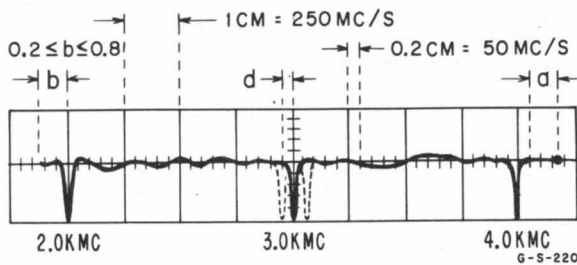

Figure 4-10. Calibration Pips on CRO Sweep
- 6) With R244 (figure 4-15), adjust sweep linearity in a direction which centers the 3 kmc (gc) pip between the 2- and 4-kmc (gc) pips (see figure 4-10). If the 2 kmc (gc) pip moves off the scope face it can be brought back by adjusting rf sweep length with R246, located near R244.